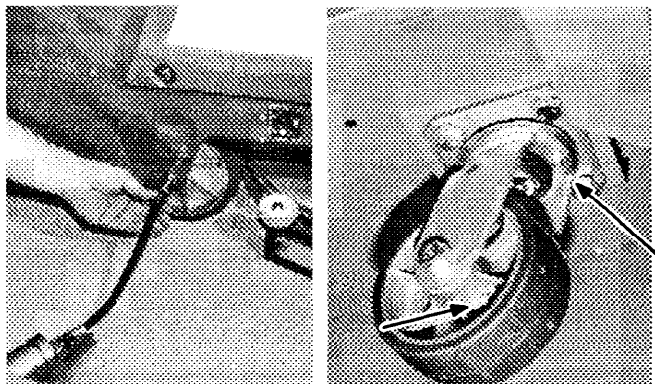

FIG. 15.
2. Grease main wheel bearings and swivel and wheel on the caster. (Figure 15)